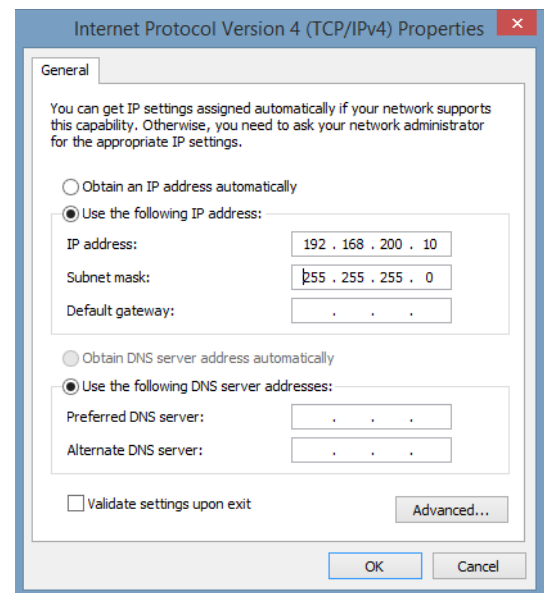

Fig. 2-30, Internet Protocol (TCP/IP) Properties Screen, Windows® 10
7. The Internet Protocol (TCP/IP) Properties dialog box will open (**Fig. 2-30**). Select "Use the following IP address". Enter the values as shown (i.e. IP address 192.168.100.2 and Subnet mask 255.255.255.0). Record the existing IP address and Subnet mask in order to later return the computer to its original state.